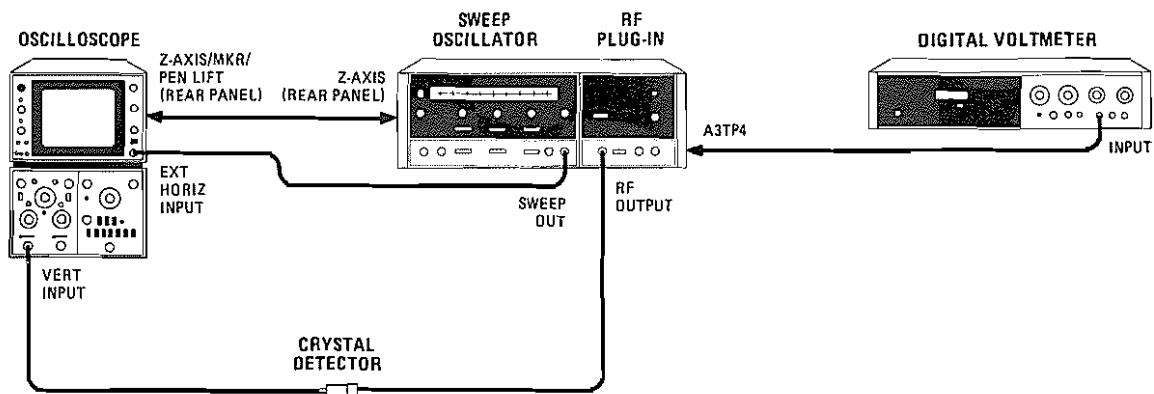

Figure 5-4. Offset Adjustment Test Setup
- a. Connect equipment as shown in Figure 5-4.